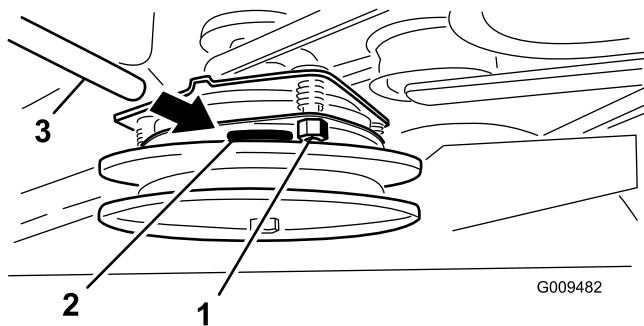

Figure 57
2. Tighten the lock nuts until there is slight binding on the feeler gauge but it can be moved easily within the air gap (Figure 57).